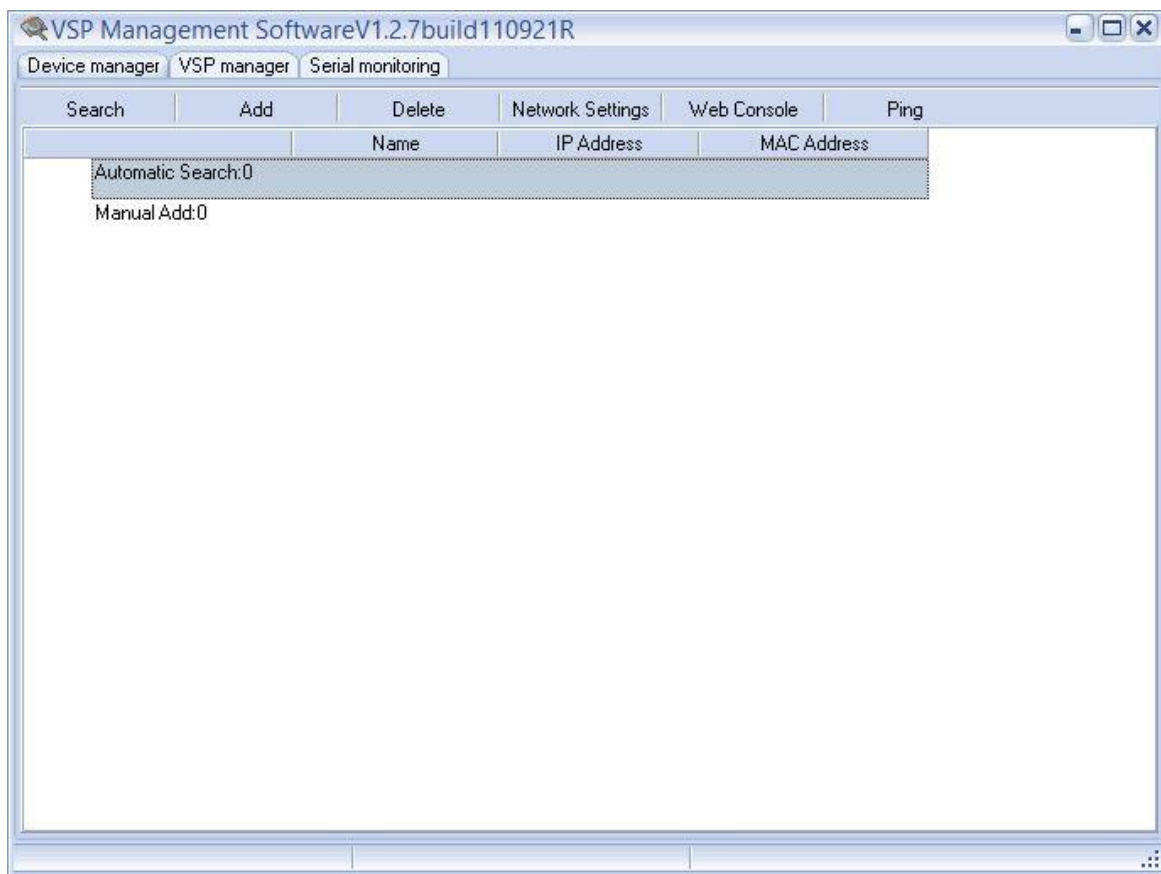

FIGURE 4.3 – VSP MANAGEMENT SOFTWARE
- 4) Run the VSP management software. (SEE FIGURE 4.3)